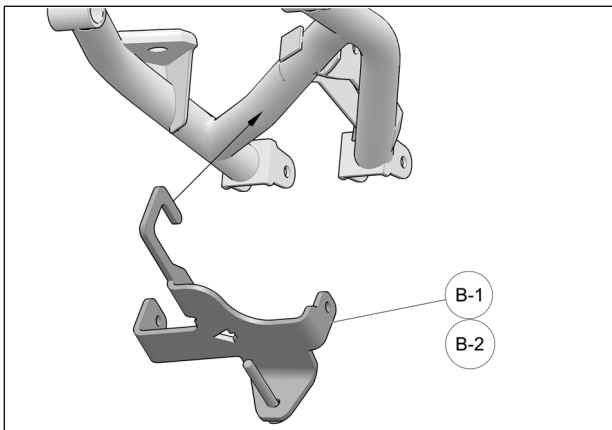

Fig. 6
6. Hook the back end of anchor bracket (**B-1**, **B-2**) on cross-member of lower suspension arm. See Fig. 6